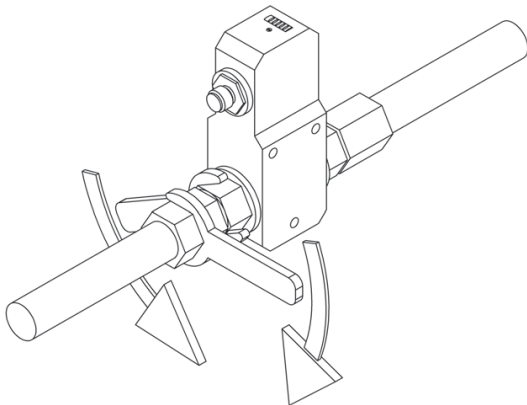
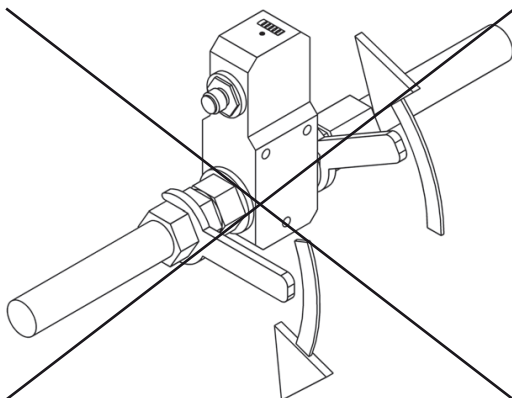

Fig. 7: Example of shear forces
Fig. 8: Negative example of shear forces
When installing and during operation be sure no shear forces are generated between the process terminals of the sensor (see Fig. 7).
- ▶ When installing and during operation be sure that no shear forces can arise (see Fig. 7 and Fig. 8).